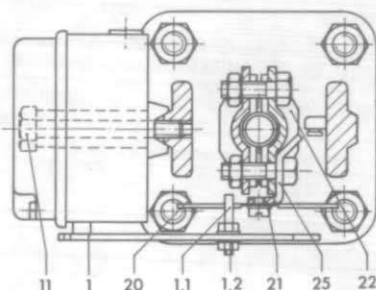

Figure 5: Attachment in the case of cast frame version (e.g. type 240)
Screw the plate (20) with screws (21) (in the case of figure 5, additionally with washer) to the coupling clamp (22) of the valve. Unscrew the cover of the positioner and attach the device to the frame of the valve with mounting screw (11).
If the coupling consists of clamps without stays with a indicator (figure 5), an additional indicator (order number 0.200-0074) must be mounted for the second plate.